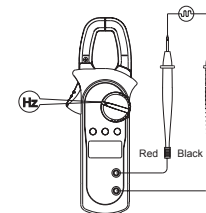

Figure 7
**E. Measuring Frequency** (See Figure 7)**Warning**